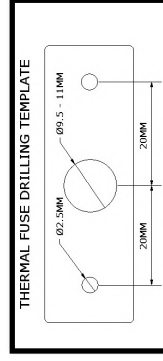

Fig. 2
7.2 Drill holes in duct (sizes/positions are detailed on template label – see fig. 2).